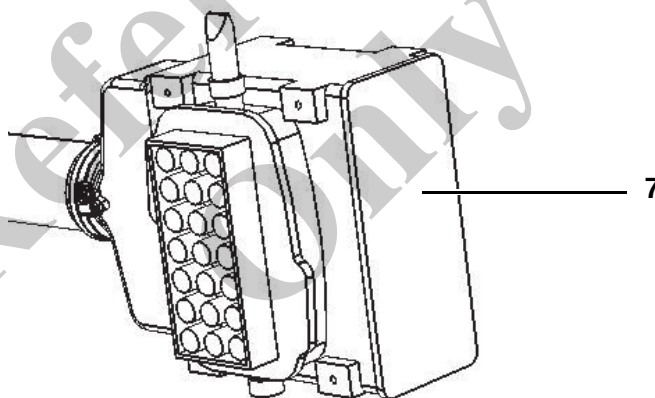

Fig. 11 Air filter pre-separator
3	Open the locking clamps of the pre-separator cover (7) in Fig. 11.
5	Attach the pre-separator cover (7) in Fig. 11 using the locking clamps.